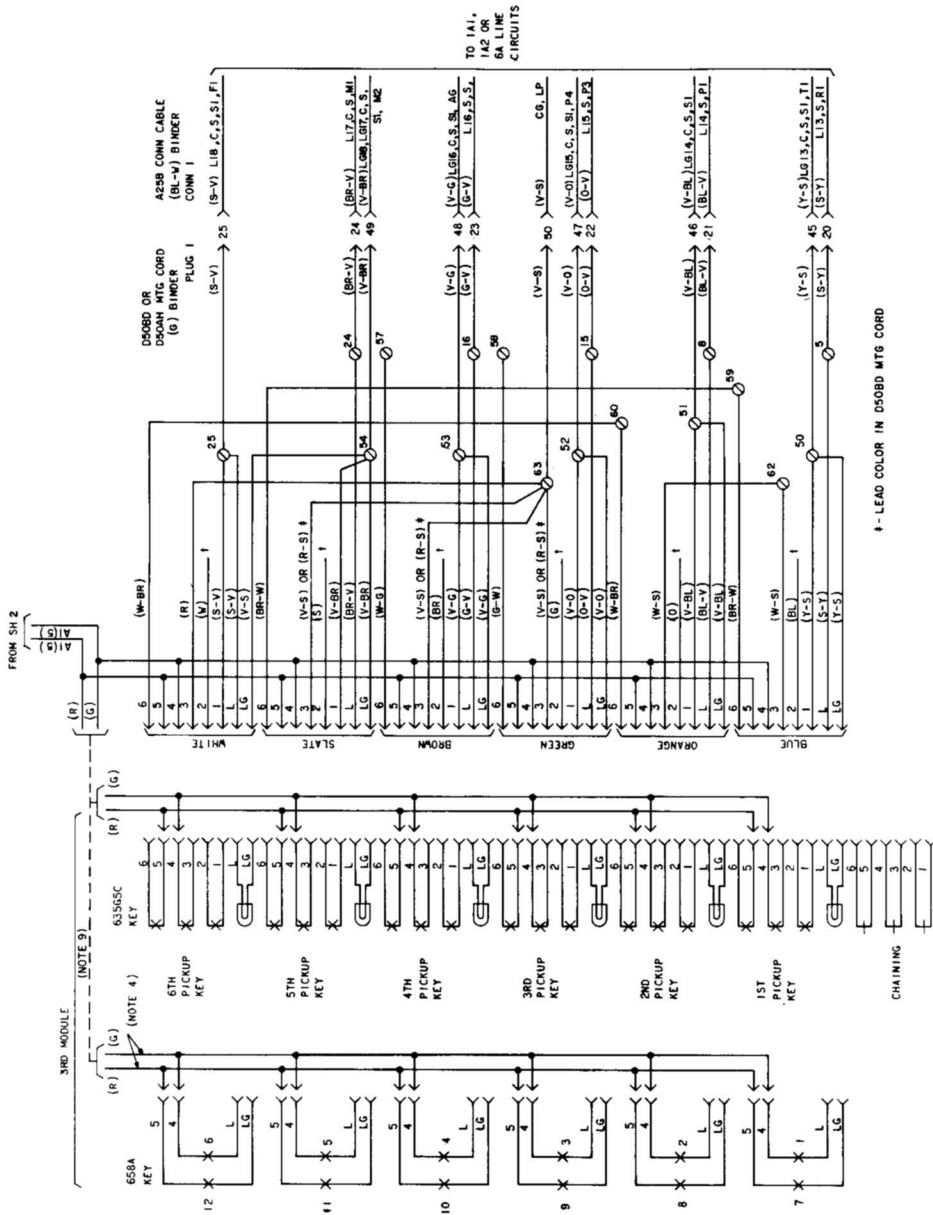

Fig. 2—2634DA or DAM Telephone Set Module and Connector Cable Arrangements (Sheet 3 of 3)
NOTES FOR FIGURES 2 AND 3:
1. THE 635AD5C KEY IS SUPPLIED WITH AN ADAPTER IN THE CUTOFF KEY POSITION. IN SETS EQUIPPED WITH D50AH OR D80D (MD) MOUNTING CORD, CONTACT STRIP ASSEMBLIES 840151039 AND 840151047 FURNISHED WITH THE 635AD5C KEY REPLACE THE 840151120 AND 840151138 ASSEMBLIES USED WITH THE 635A5C KEY. THE SLATE MOUNTING CORD PLUG CONNECTS TO THE ADAPTER. BALANCE OF PLUGS CONNECT DIRECTLY TO KEY.
2. IF A 635AD5C KEY IS ADDED IN THE FIELD, TERMINATE THE (BL-Y) AND (Y-BL) ADAPTER LEADS AS INDICATED IN NOTE 6 AND REMOVE (R) SLATE PLUG LEAD FROM TERMINAL 22, INSULATE AND STORE.
4. IN SETS EQUIPPED WITH A 658A KEY, THE (G) CONTACT STRIP OR PLUG STRAP LEAD IS TERMINATED ON TERMINAL 10 AND (R) ON 11. IF A 658A KEY IS ADDED IN THE FIELD, LEADS MUST BE MOVED FROM PRECEDING MODULE CHAINING CIRCUIT TO TERMINALS 10 AND 11. PROVISIONS ARE MADE FOR MECHANICALLY STORING THE LIGHT BEIGE PLUG ON THE 658A KEY. NO ELECTRICAL CONNECTION IS MADE.
8. CONTROL LEADS CA TO CJ ARE CONNECTED TO TERMINALS 57 TO 65. THESE TERMINALS APPEAR ON MORE THAN ONE OF THE MODULE SHEETS OF FIG. 2 AND 3 BUT ARE THE SAME TERMINAL.
9. THESE CONTACT STRIPS ARE REQUIRED WHEN TELEPHONE SET IS EQUIPPED WITH THE D50AH (MD) OR D80D (MD) MOUNTING CORD. THESE CONTACT STRIPS SHOULD NOT BE USED WHEN TELEPHONE SET IS EQUIPPED WITH THE D50BD OR D80E MOUNTING CORD.